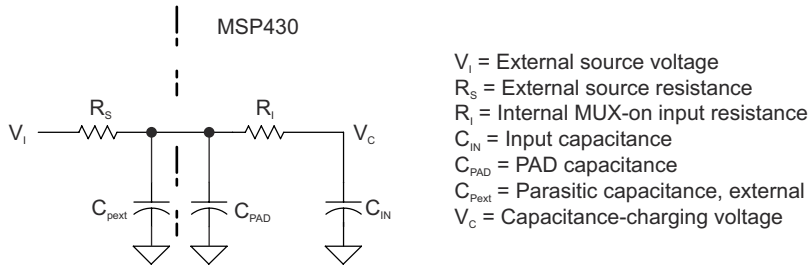

Figure 8-14. eCOMP Input Circuit
- (1) For the eCOMP C_{IN} model, see Figure 8-14.
- (2) This is measured over the input offset.